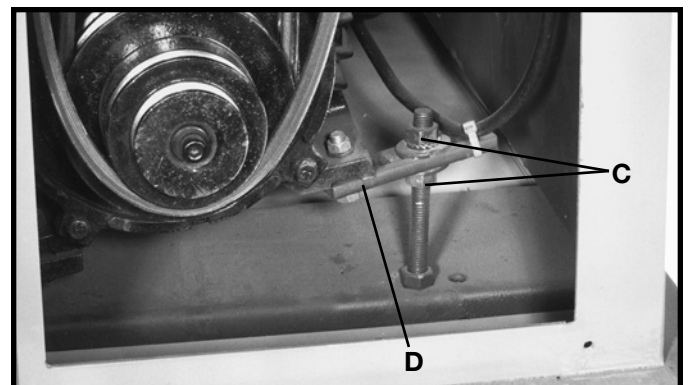

Fig. 29
3. Loosen and tighten two adjustment nuts (C) Fig. 29, to move motor plate up or down as necessary to increase or decrease drive belt tension. Tighten both adjustment nuts (C) against plate (D) Fig. 29, after adjustment is made.